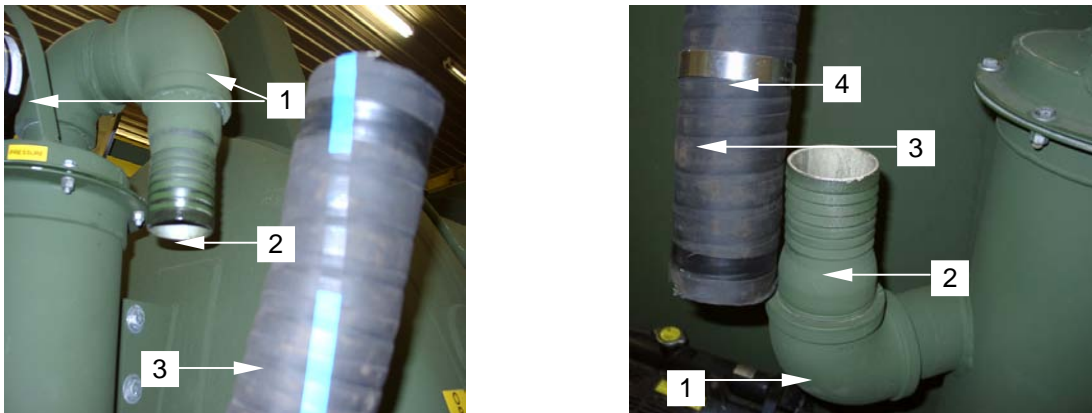

Figure 12. Install Hose onto Moisture Trap
23. Using a pipe wrench install the elbow fittings (figure 12, item 1) and air hose nipples (figure 12, item 2) to the moisture trap. (The nipples and fittings can be re-installed as assembly, if removed as assembly.)
24. Place the air hoses (figure 12, item 3) onto the hose nipples (figure 12, item 2). Position the hose clamps (figure 12, item 4) over the hose nipples (figure 12, item 2) and tighten.